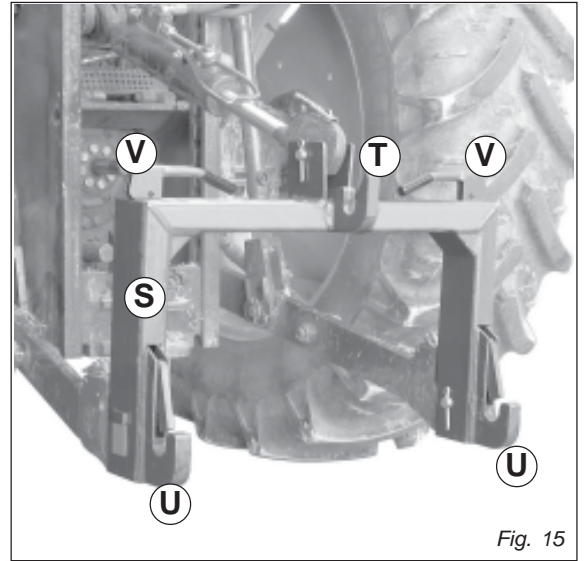
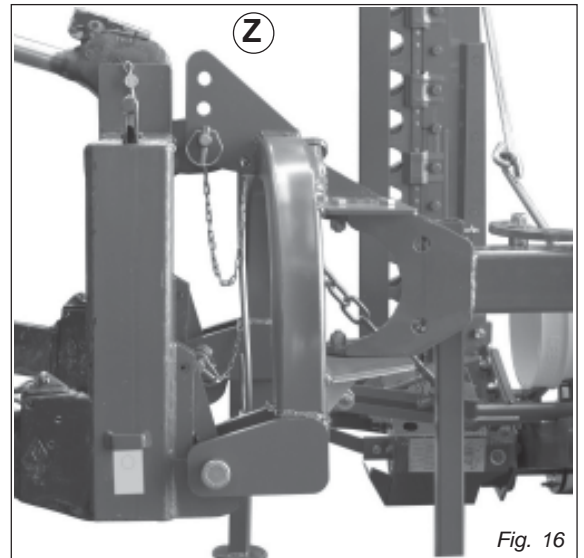

Fig. 15
Fig. 16
- 1) Install hitch Quick Coupler (S, Fig. 15) on the tractor (see tractor operator manual).
- 2) Parking the sickle bar on a flat and compact ground supported by the relative supports. Then slowly move the tractor back until the Quick Coupler (S) is in range with the point hitches (T and U, Fig. 15).
- 3) Raise the Quick Coupler (S, Fig. 15) and make sure that sickle bar hitch is in the right position (Z, Fig. 16).
4. Raise the two Quick Coupler levers (V, Fig. 15) to unloch sickle bar (Quick Coupler Figure, page 14).